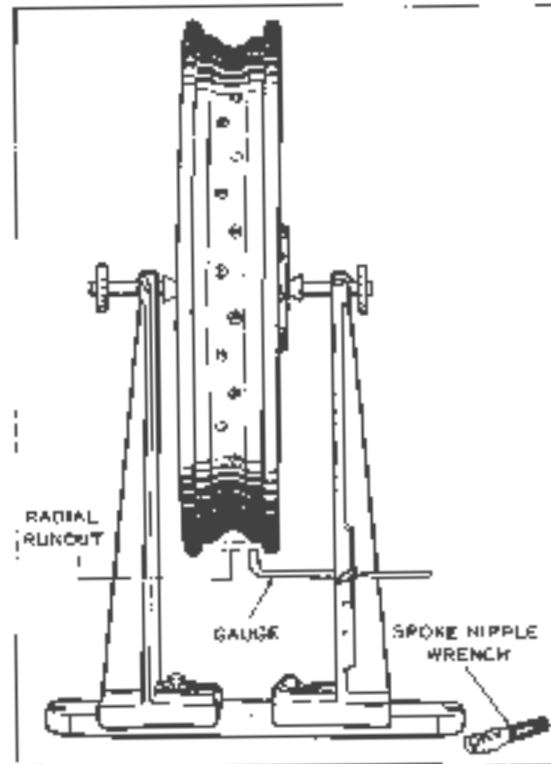

Figure 2-25. Truing Rim Concentric with Hub
7. After rim has been centered sideways with wheel hub and runs true sideways, check it for concentricity. Adjust truing stand gauge to rim tire bead seat as shown in Figure 2-25. If rim runs eccentric (radial runout), nipples must be loosened at points rim does not contact gauge, and nipples tightened at points rim contacts gauge. Amount nipples are to be loosened or tightened is determined by the amount rim is out of round. Rim should be true to 1/32 in. or less radial runout.